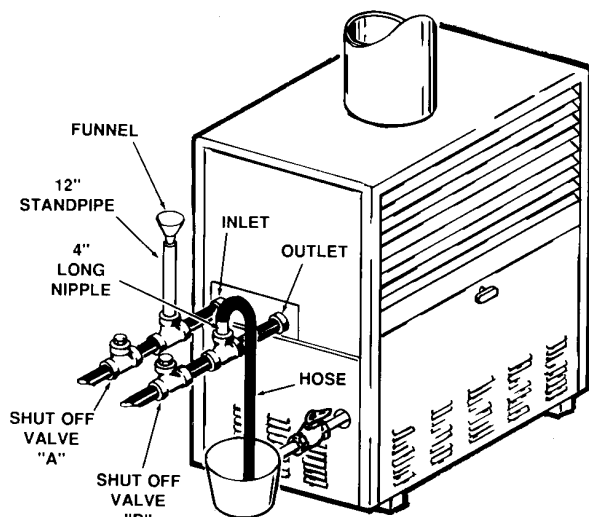

FIGURE 29
Figure 29 shows typical piping arrangement for gravity deliming of lime deposits. For systems using recirculating deliming pumps contact your A. O. Smith distributor.
The time between cleaning will vary from two to six months depending upon water conditions and usage. A change of approximately 5°F in the normal temperature rise through the boiler is usually an indication that scale should be removed. For long life, copper or brass is recommended for all valves, pipe and fittings used between gate valves "A" and "B" and the boiler, see fig. 29.
2. Close gate valves "A" and "B", see fig. 29.
4. Install standpipe in tee of inlet/outlet line, see fig. 29.